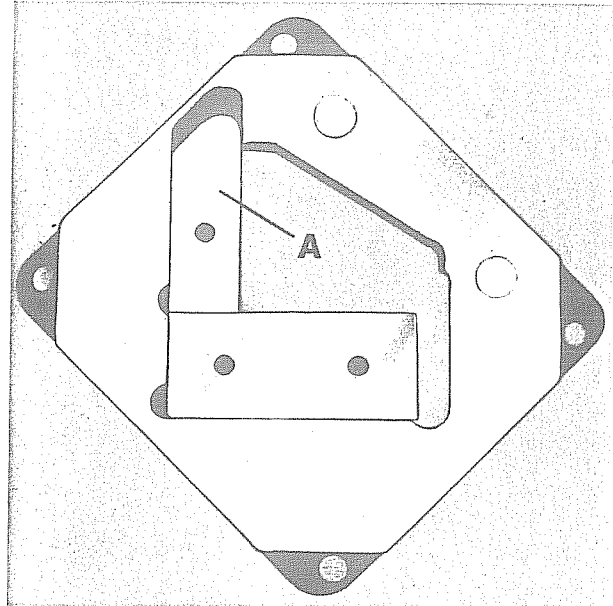

Fig. 35: PMG section blade, stationary
a) Disassembling the section blades according to instructions given under item 1.
b) For disassembling the sliding blades "A" and "B" (see fig. 35 and 36).
e) Install the section blades acc. to the instruction, item 2.